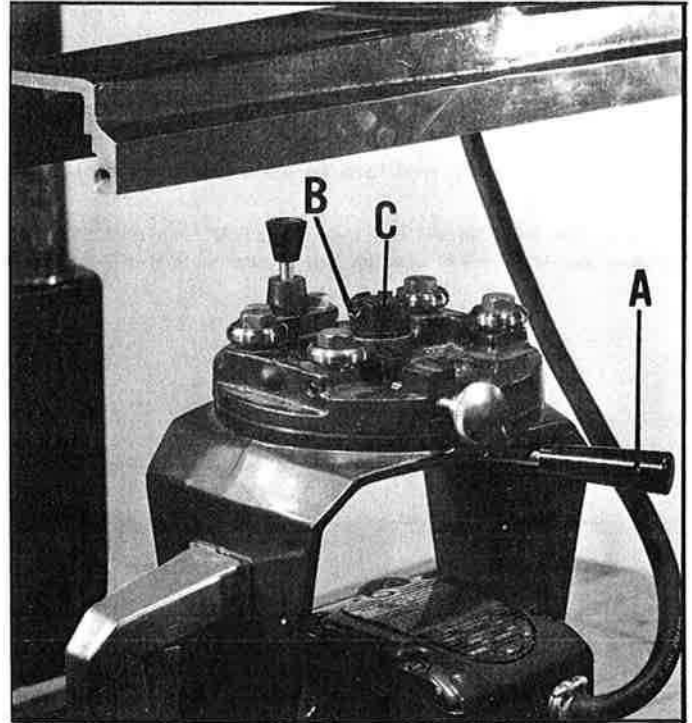

Fig. 33
1. Swing the track to the rip position, remove rear end plate from the track-arm, and remove the cuttinghead, as shown in Fig. 33.
2. Loosen yoke clamp handle (A) and remove cotter pin (B) Fig. 33.
3. Turn the nut (C) Fig. 33, clockwise 60 degrees and replace cotter pin.